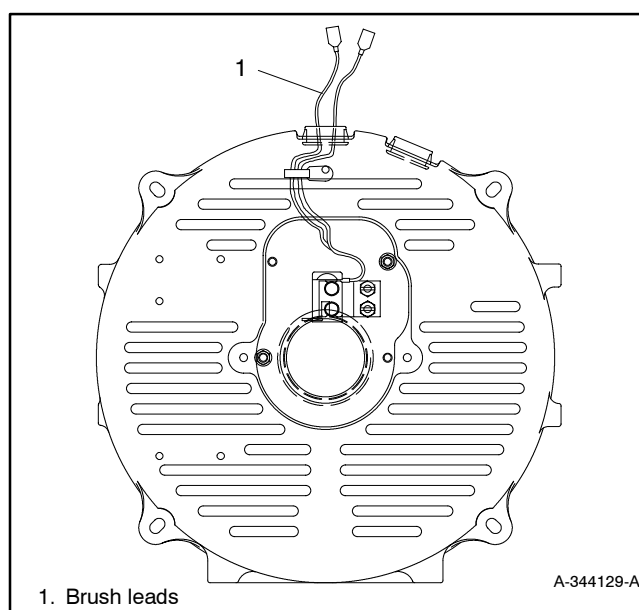

Figure 6-5 Generator End Bracket
11. Gently grasp brush leads and raise brushes from slip rings. Lock brushes in raised position by inserting a retaining wire in hole in brush holder. See Figure 6-5.